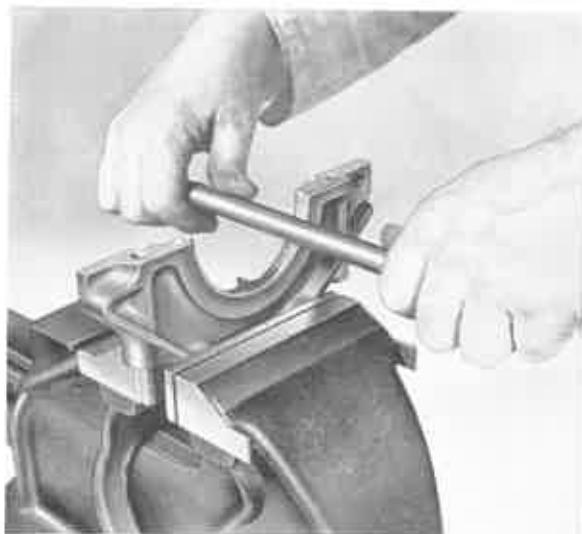

Fig. M.5.
3. With thumb or finger press the remainder of the strip into the groove working from the centre. Then use any convenient round bar to further bed in the strip by rolling and pressing its inner diameter (See Fig. M.5). This procedure takes advantage of the friction between the strip and the groove at the ends, to compact the rope, whilst ensuring that the projections of the end faces of the rope remain as set.